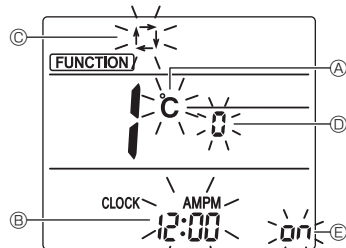

Fig. 4-8
The Screen display setting screen will be displayed. (Fig. 4-8)
4.9.2. Changing the temperature unit (Fig. 4-8 Ⓐ)
- Press the **TEMP** button ⑤.
- Each time the **TEMP** button ⑤ is pressed, the setting switches between °C and °F.
4.9.3. Changing the time display (Fig. 4-8 Ⓑ)
- Press the **TIME** button ⑥.
- Each time the **TIME** button ⑥ is pressed, the setting switches between 12:00^{AMPM} and 24:00.
4.9.4. Changing the AUTO mode (Fig. 4-8 Ⓒ)
- Press the **MODE** button ⑦.
- Each time the **MODE** button ⑦ is pressed, the setting switches between and .
4.9.5. Changing the pair No. (Fig. 4-8 Ⓓ)
- Press the **UP** button ④.
- Each time the **UP** button ④ is pressed, the pair No. 0-3 changes.